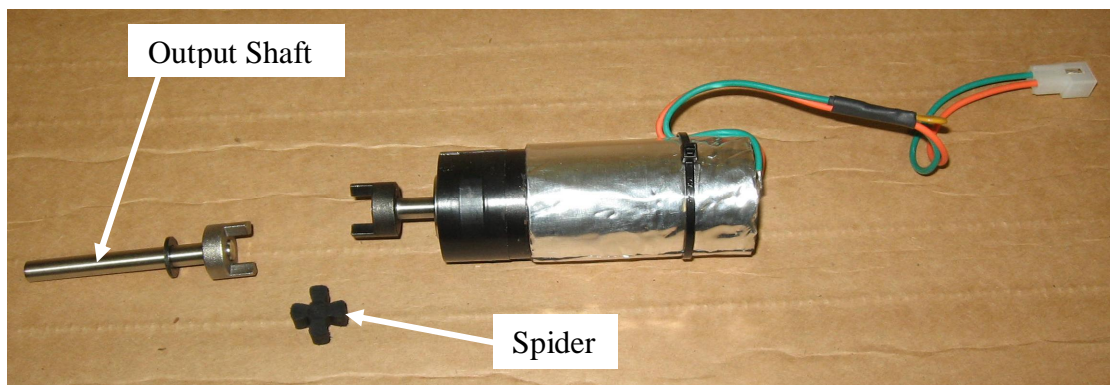

Figure 27
- 4) Clean the output shaft and inspect the rubber spider for wear (Figure 27)